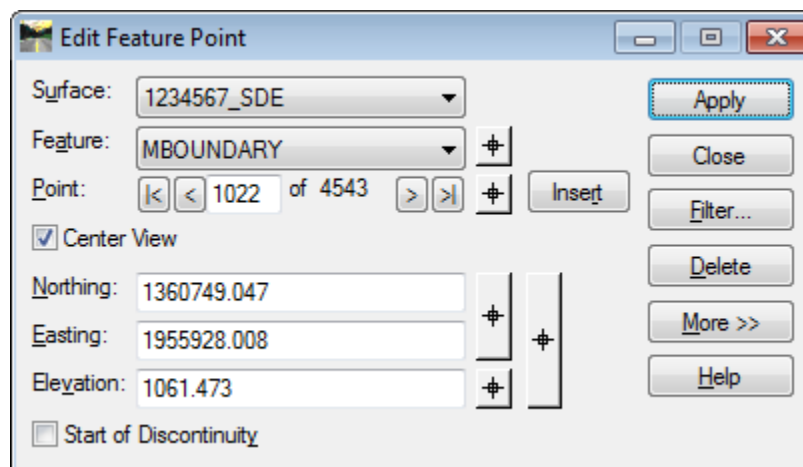

Figure L9-15 Edit Feature Point 1022
99. The **Edit Feature Point** dialog box should now correspond to the screen capture depicted in Figure L9-15 as shown below.